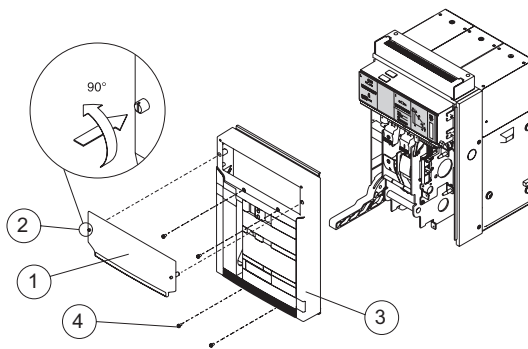

Figure 32.
- The tab (1) of the release by rotating the screws (2) as shown in Figure 32.
- Remove the front cap (3) by loosening the four screws (4).